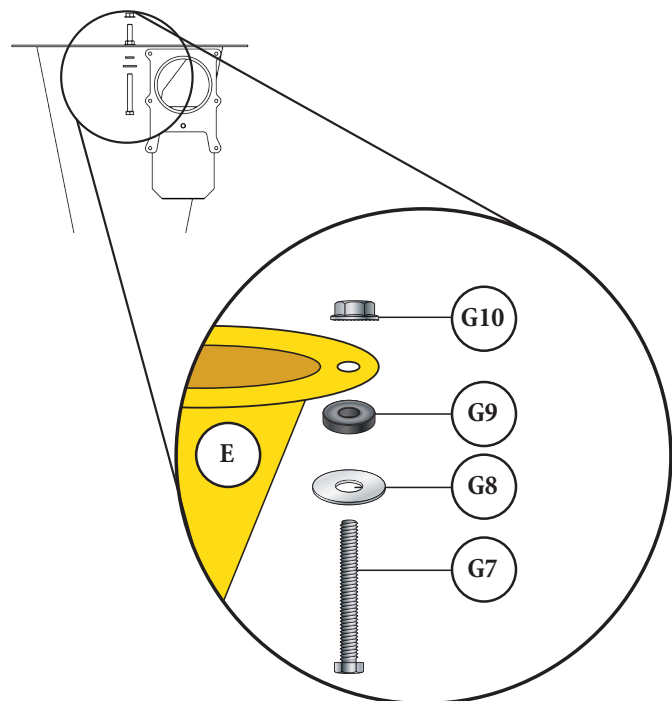

FIG. 13
- 13** Install the remaining Hex Head Bolt (G7), Flat Washer (G8), Rubber Washer (G9), and Whiz-Lock Nut (G10) to the remaining hole in the Cyclone's (E) upper flange [FIG. 13].